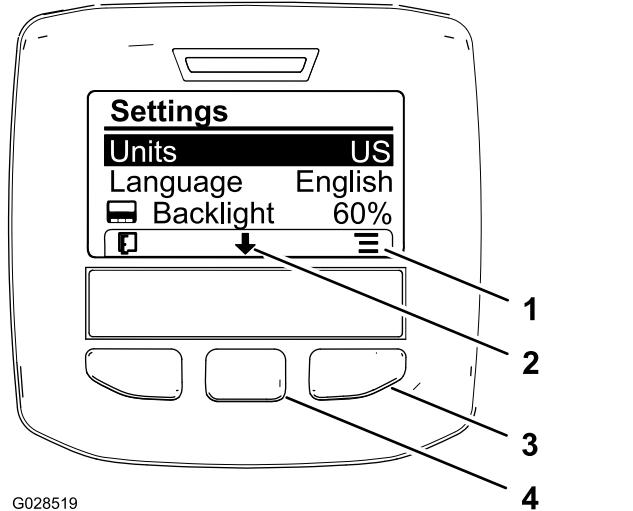

Figure 53
2. To change the unit of measure, press the right selection button to change the listed units of measure (Figure 53).
3. To change the language used in the display, pressing the center selection button (the button below the down arrow in the display) to move the selected option to Language (Figure 53).
4. Press the right selection button (the button below the list icon in the display) will to highlight the listed language used in the display (Figure 53).
6. Press the left selection button to return to the Home screen (Figure 53).